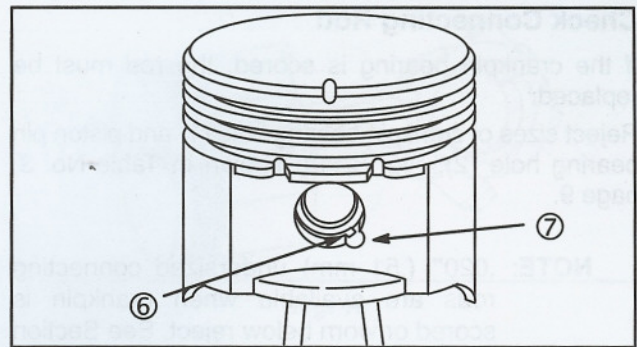

Fig. 4
1. Rotate piston pin retainer (6) until one end is exposed in the notch (7) of the piston pin bore, Fig. 4.